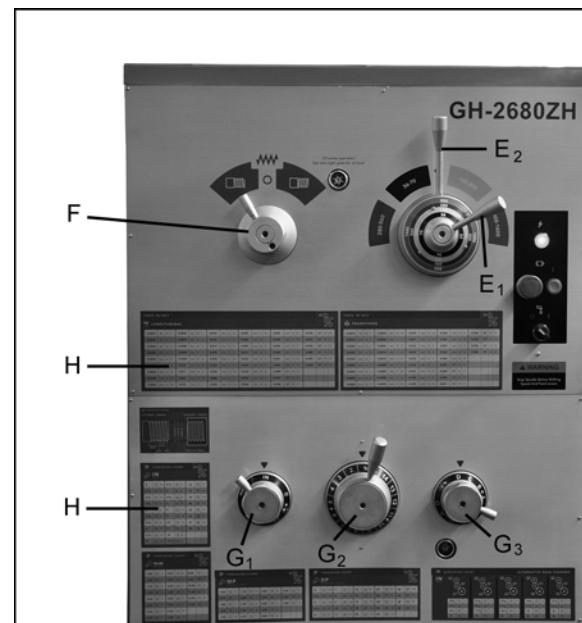

Figure 31
Twelve speeds are available by placing the first speed lever ( $E_1$ , Figure 31) in one of four positions, and placing second lever ( $E_2$ ) in a position that matches the color for the range you desire. These selections are identified on the lever hub, as well as in Table 6, section 16.3.
- Refer to the *Feed and Thread Chart* on the front of the headstock ( $H$ , Figure 31). The chart is also shown in section 16.10 of this manual.
- Move levers ( $G_1, G_2, G_3$ , Figure 31) to the appropriate position according to the Feed and Thread Chart.
1. Move **thread selection lever** (F, Figure 31) to desired direction, for right-hand or left-hand threads. *NOTE: The overrunning clutch in the apron will prevent the tool post from feeding for left-hand threads. It will only feed when right-hand threads are being cut.*
2. Set **speed levers** (E1, E2, Figure 31) to desired speed. Use the lowest speed possible when threading.
3. Select desired thread using **thread pitch levers** (G1, G2, G3, Figure 31) in conjunction with the charts on the headstock. These charts are also included in section 16.10 of this manual.
**NOTE:** When a special thread must be cut that is not found on the chart, move thread change control lever (G1, Figure 31) to  position, and lever (G3) to IV, then reset the change gears.